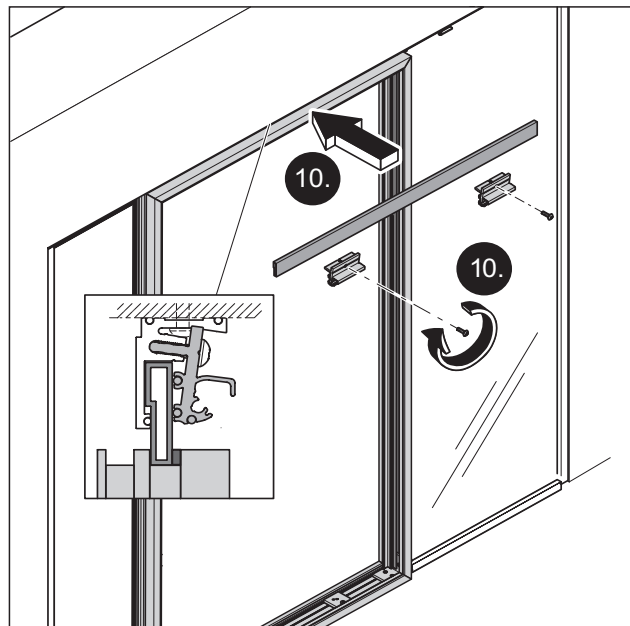

Fig. 25 Attach the adapter profile
10. Hold the adapter profile against the acoustic element and the base profile (Fig. 25).